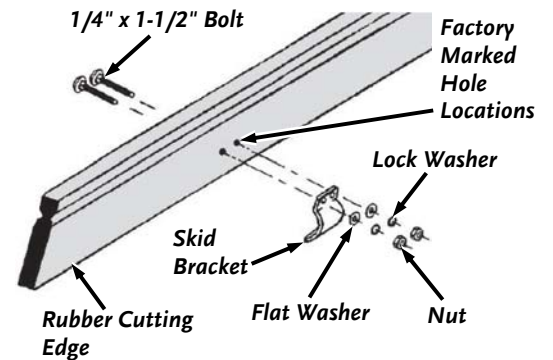

Figure 1
1. Each end of the Rubber Cutting Edge has two factory marks (to match with holes in Skid Bracket). Drill them out with 5/16" Bit (**Figure 1**).